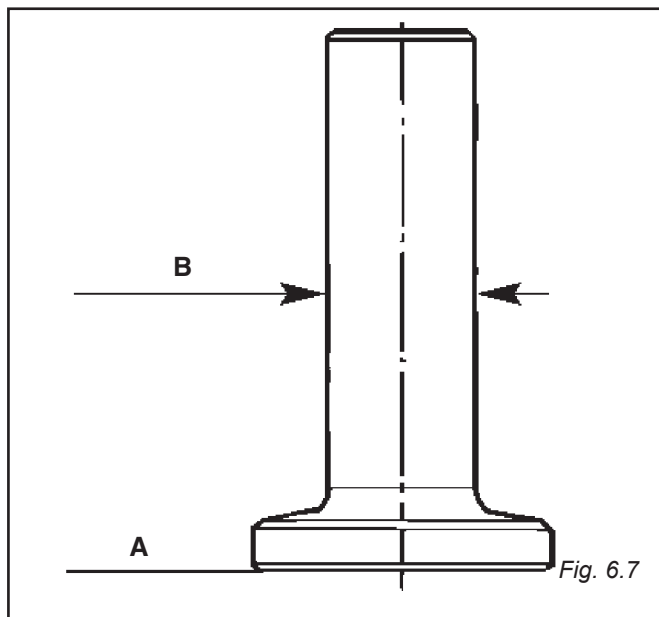

Fig. 6.7
6.5 PUSHRODS AND TAPPETS (FIG. 6.7)